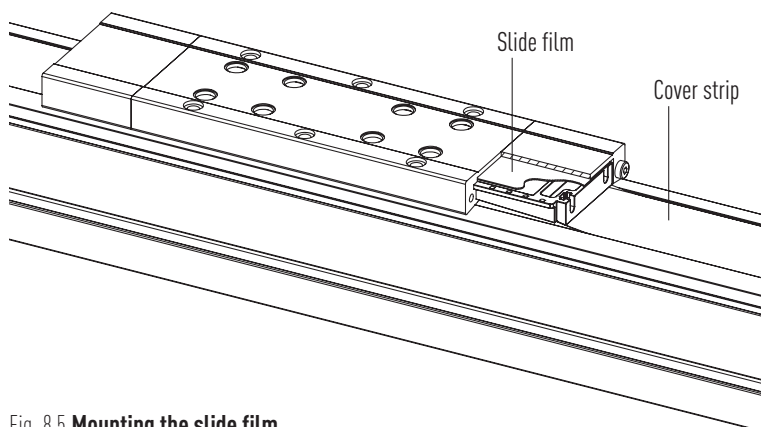

Fig. 8.5 **Mounting the slide film**
- ▶ Push the slide film through the upper opening in the belt deflection as shown in Fig. 8.5 and align it centrally in the longitudinal direction.